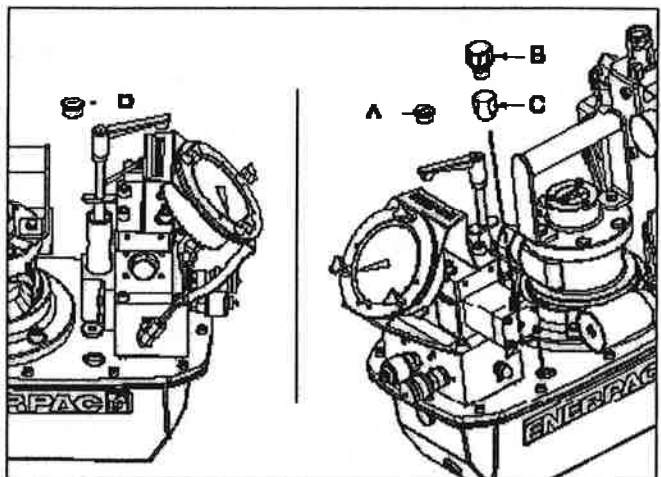
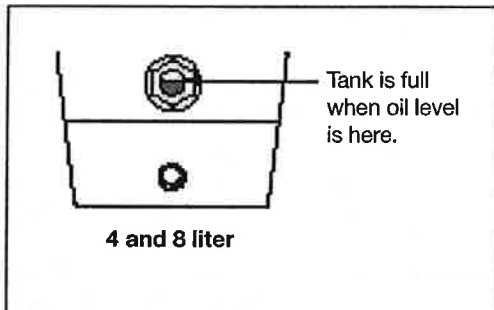

Figure 2, Oil Fill Plug and Breather Cap
Figure 4
4.1 Breather Cap and Oil Fill Plug (See Figure 2)
Check the oil level of the pump prior to start-up, if necessary add oil by removing the SAE #10 plug from the cover plate (see Fig. 2). The reservoir is full when the oil level reaches the top of the sight glass. (Fig. 4).
Check the oil level of the pump prior to start-up, and add oil, if necessary, by removing the fill port cap. Always be sure hydraulic wrenches are fully retracted before adding fluid to the reservoir. See Figure 2.
6. Fill the reservoir with clean Enerpac hydraulic oil. The reservoir is full when oil level is in middle of the sight gauge (see figure 4).